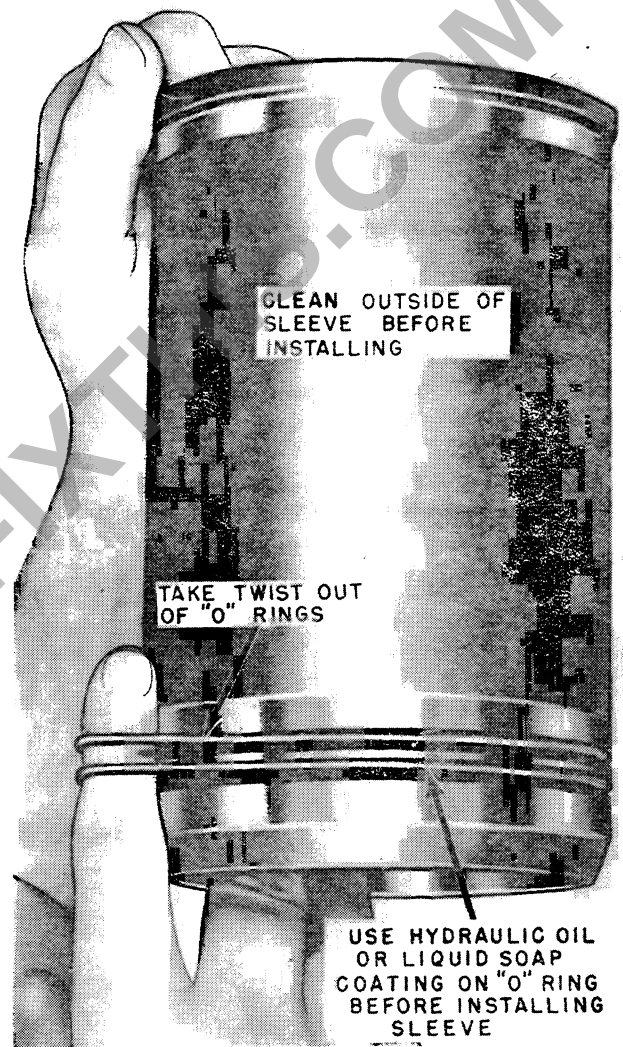

Figure 204 - Taking Twist Out of "O" Rings on Cylinder Sleeve
7. Install new "O" ring seals in grooves on the sleeves. Seals must not be twisted during assembly as leakage may result. To prevent any twist, slip finger under "O" rings, and run finger around sleeve two or three times, allowing "O" rings to slide back into grooves without a twist, see Figure 204.